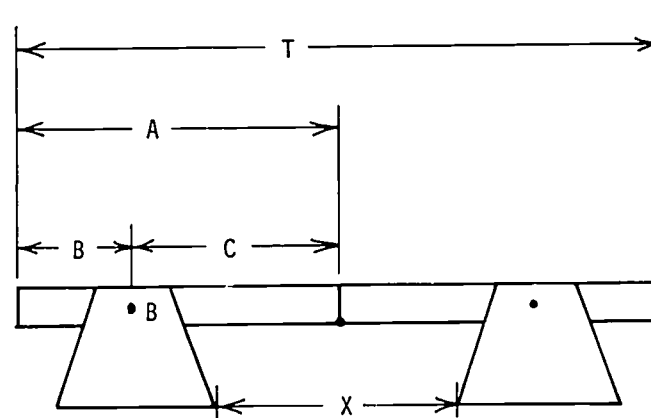

Fig. 15-6. Roadway Design Requirements
2. Study Fig. 15-6, Roadway Design Requirements. Also study Fig. 15-2.